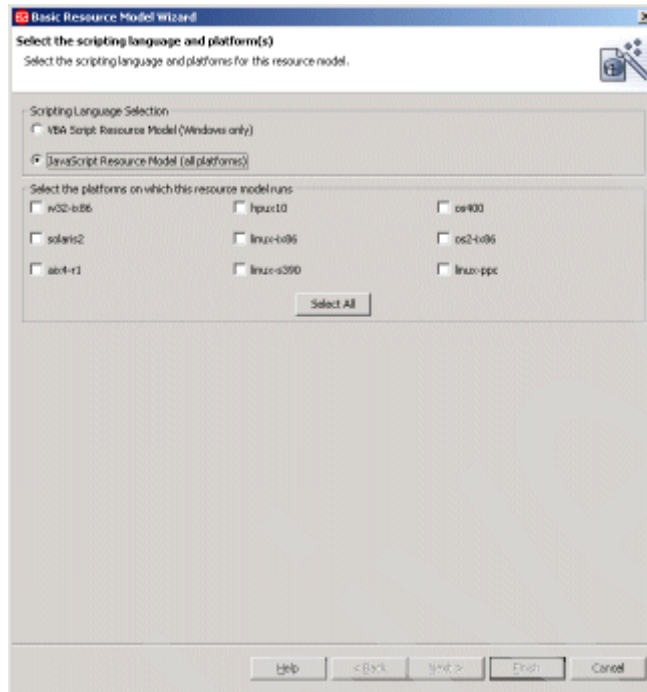

Figure 9-38 Basic Resource Model Wizard: Select the scripting language and platform(s)
8. Select **Basic Resource Model Wizard**. A window displays as shown in Figure 9-38 on page 460.